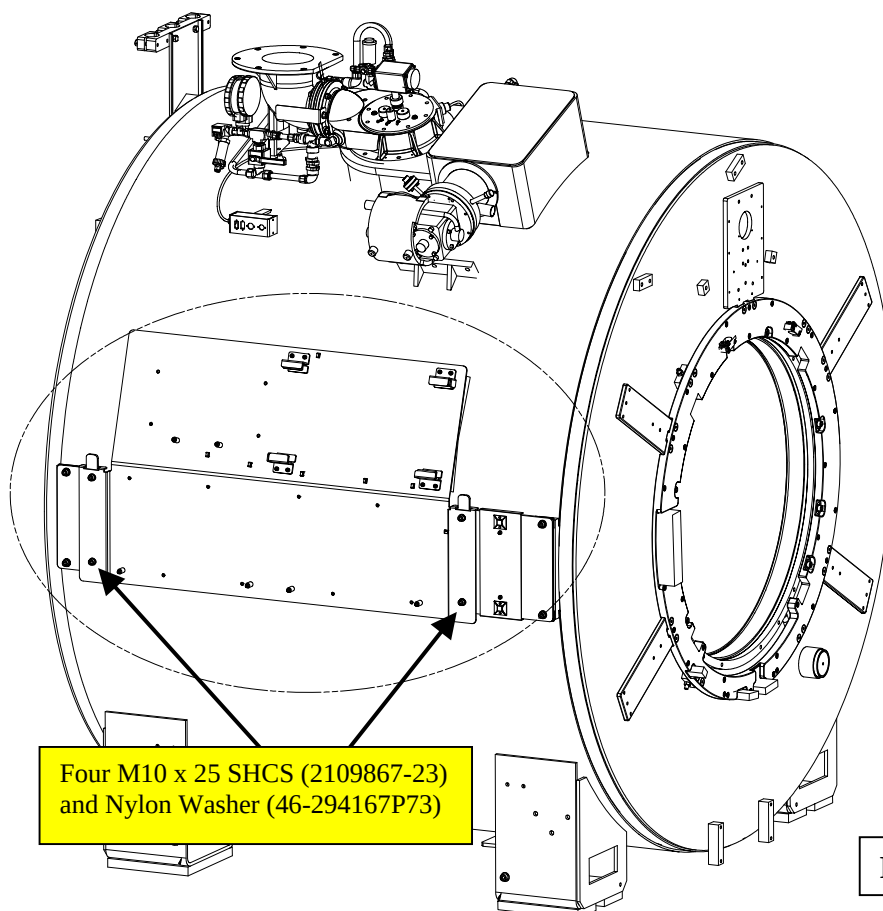

Figure 11
- B. Install Left (5232034-2) and Right Side (5232034) Enclosure Bracket to upper holes in magnet feet using (2) M10 Screws and Washers at each end. (FIG 11)
- G. Mount the side electronics assembly (5316129) on cold head side of Magnet using (4) M10 Hex Head Cap screws and nylon washers (46-294167P73) at each of the mounting holes in the front and rear attachment brackets (*Fig 11*).